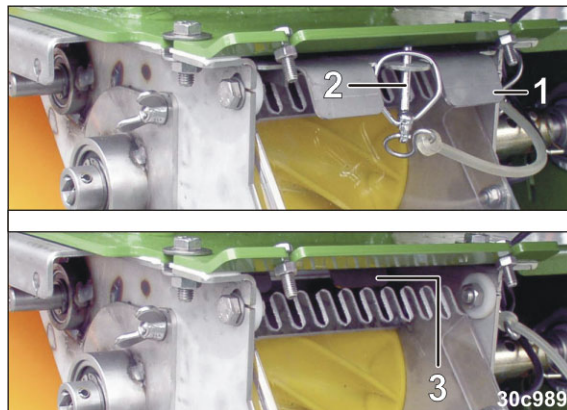

Fig. 189
Fit all the metering units on the implement with the same metering roller. Open all shutters (Fig. 189/1) and secure [linch pin (Fig. 189/2)].
1. Remove the linch pin (Fig. 189/2).
(Only required with filled fertiliser hopper to close the hopper with the shutter (Fig. 189/1).
2. Push the shutter (Fig. 189/3) into the metering unit up to the stop.